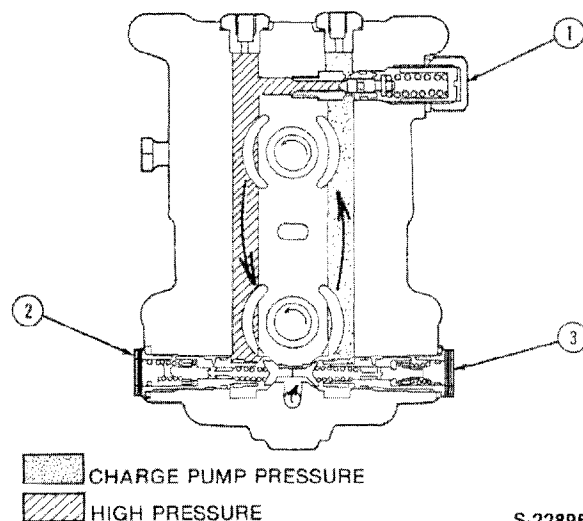

Figure 78
10. If necessary to adjust the relief valve, separate the tractor and adjust the adjusting screw and then retest the relief valve, Figure 78.